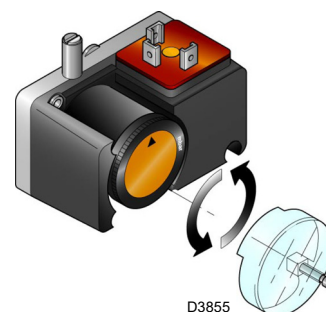

Fig. 33
- Adjust the pressure switch for the valve leak detection control device (PVP Kit)(Fig. 33 on page 28), if present, according to the instructions supplied with the Kit itself.
Adjust the pressure switch for the valve leak detection control device (PVP Kit)(Fig. 33), if present, according to the instructions supplied with the Kit itself.